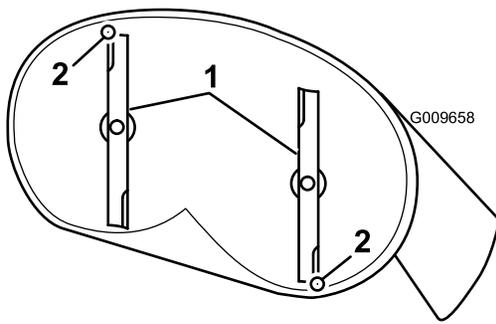
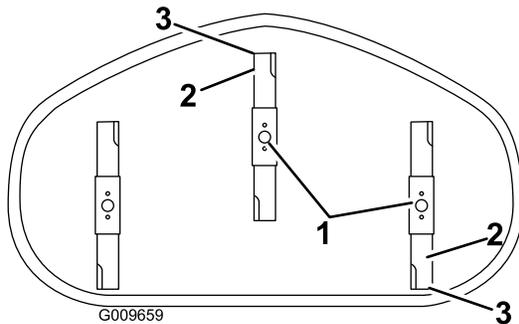

Figure 66
Figure 67
4. Carefully rotate the blades so they are facing front to rear (Figure 66 and Figure 67).
5. Measure from the tip of the front blade to the flat surface, and the tip of the rear blade to the flat surface (Figure 66 and Figure 67).
9. After adjustment, check the front-to-rear slope again, continue adjusting the nut until the front blade tip is 1.6 to 7.9 mm (1/16 to 5/16 inch) lower than the rear blade tip (Figure 66 and Figure 67).